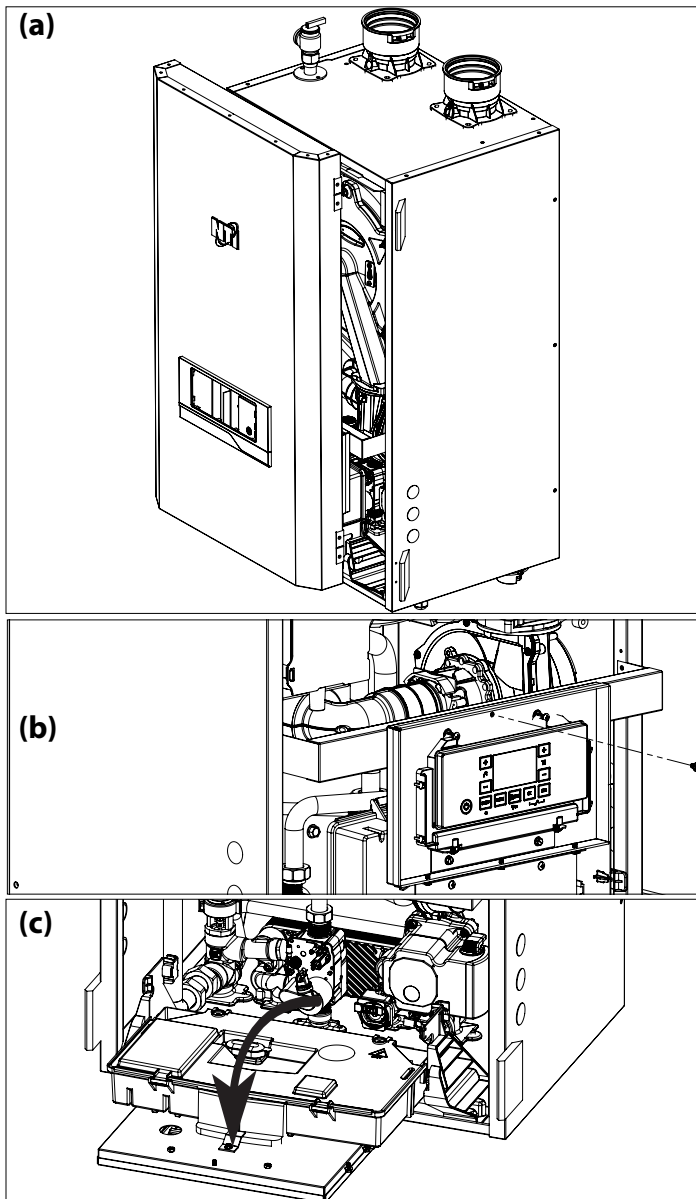

Figure 79 - Removing the Cover and Control Panel Housing
See Figure 79 to access the interior of the boiler:
- Remove the front panel as shown in Figure 79.